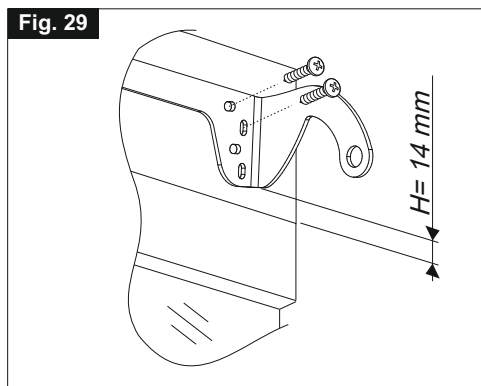

Fig. 30
- 6) **Fig. 30-** Align the bottom hung bracket with the centre line of the window using as reference the central hole of the fastening screws (**Ref. 1**) and position the bottom hung bracket at 4 mm from the frame, then mark the drilling points;